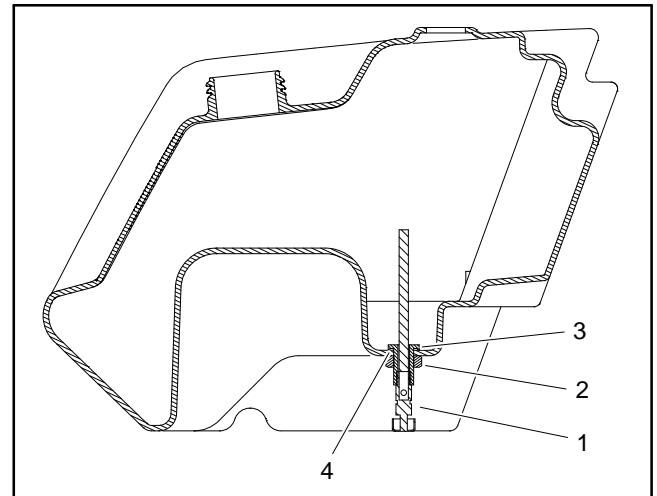

Figure 8
- A. Close fuel shut-off valve (item 29).
- B. Disconnect fuel supply hose (item 13) at the fuel filter (item 16) and drain any fuel trapped in the fuel filter and fuel hose into a suitable container.
3. Remove fuel hose (item 5) from fuel vent valve (item 31).
4. Remove four (4) cap screws (item 35), flat washers (item 34) and flange bushings (item 33) that secure the fuel tank to the tank mount plate (item 2). Remove the fuel tank from the machine.
5. If necessary, remove fuel supply hose (item 13) from fuel shut-off valve.
6. If necessary, remove shut-off valve and fitting assembly from fuel tank (Fig. 8). The nut and fitting have left hand threads.
1. Install fitting assembly and shut-off valve into fuel tank if they were removed from tank (Fig. 8). The nut and fitting have left hand threads.
- A. Apply antiseize lubricant to the threads of the four (4) cap screws (item 35).
- B. Secure fuel tank to the tank mount plate with four (4) cap screws (item 35), flat washers (item 34) and flange bushings (item 33).
4. Install fuel supply hose (item 13) to fuel shut-off valve and fuel filter. Secure supply hose with hose clamps.
5. Connect fuel hose (item 5) to fuel vent valve (item 31) and secure with hose clamp.